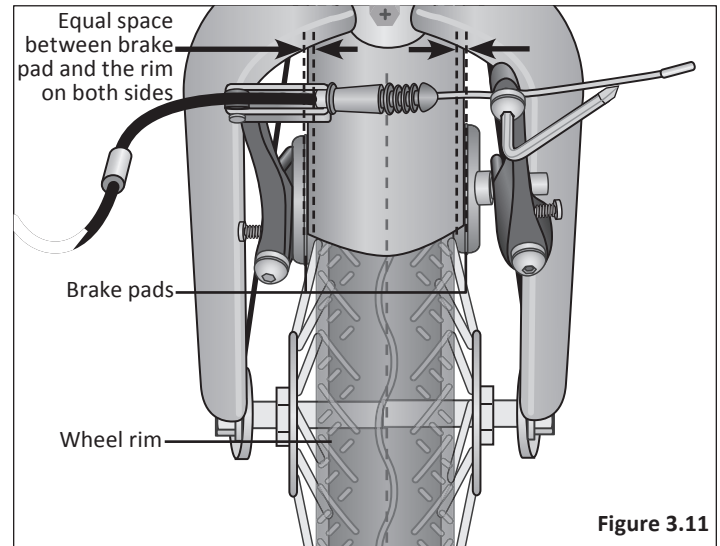

Figure 3.11
- The brake pads do not drag on the rim when the brake is open. **Figure 3.11**